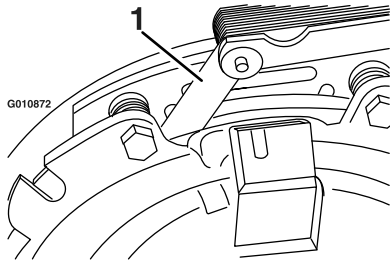
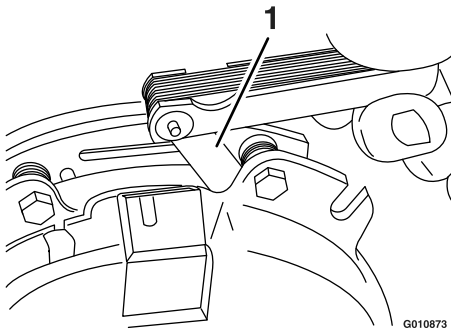

Figure 59
Figure 60
- E. Using a 0.010 inch thick-feeler gauge, verify that a gap is present between the rotor and armature face on both sides of the brake pole as shown in Figure 59 and Figure 60.